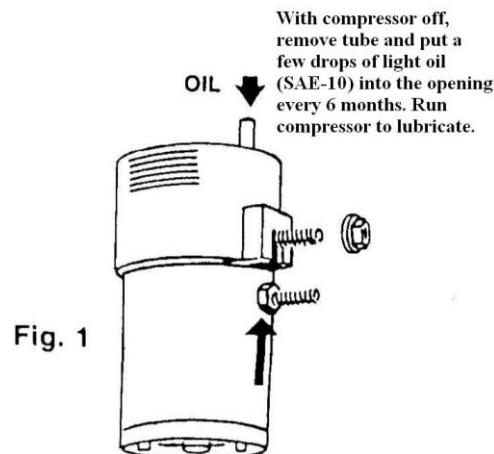

Fig. 1
2. Drill a 3/16" hole in the selected location. Use the hex bolt and nut supplied to mount compressor. See Figure 1 (Compressor must be mounted vertically, with air outlet on top).